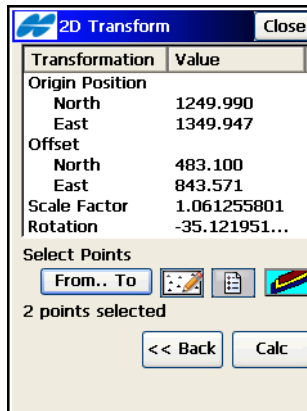

Figure 10-26. 2D Transform Parameters
4. Tap **Calc** to perform the two dimensional transformation of these points (Figure 10-26).